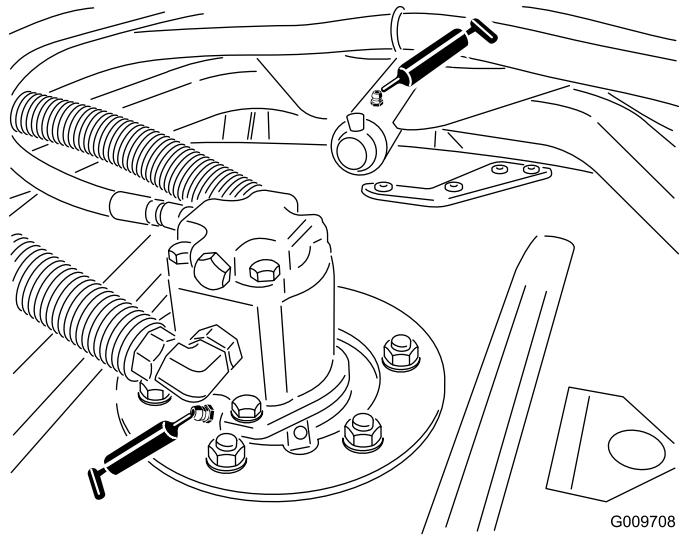

Figure 39
- Cutting-unit spindle-shaft bearings (2 per cutting unit) as shown in Figure 39
- Cutting-unit carrier-arm bushings (1 per cutting unit) as shown in Figure 39